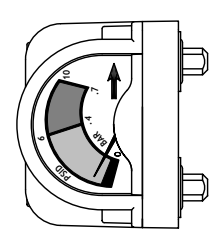

Figure 3.2
Initial drop: 1 psi (0.07 kgf/cm²). Pressure drop increases as element loads with solid particles. Replace when pressure drop reaches 6 psi (0.42 kgf/cm²) (indicator in red area) or annually, whichever occurs first. Reference page 7, Figure 3.2 for gauge scale detail.
- c. FOR MAXIMUM FILTRATION EFFICIENCY, REPLACE ELEMENT WHEN PRESSURE DROP REACHES 6 PSI (0.42 KGF/CM²) (INDICATOR IN RED AREA) OR ANNUALLY, WHICHEVER OCCURS FIRST. Reference page 7, Figure 3.2 for gauge scale detail.